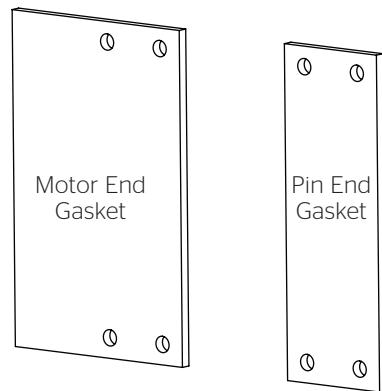
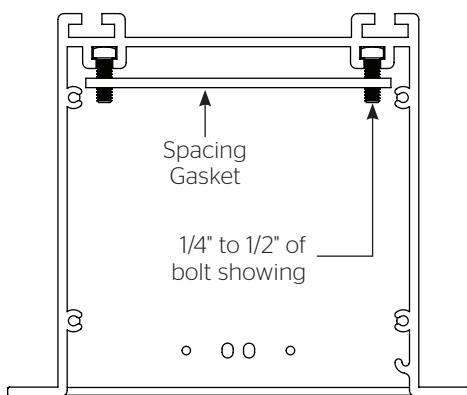

Figure 5 - Spacing Gaskets
Figure 6
3. Place the two spacing gaskets (shown in Figure 5) on the bracket bolts with  $\frac{1}{4}$ " -  $\frac{1}{2}$ " of the bolts showing through the bottom (Figure 6).